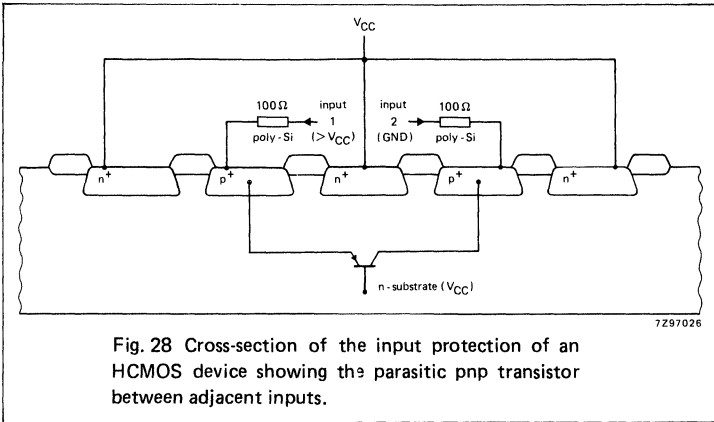
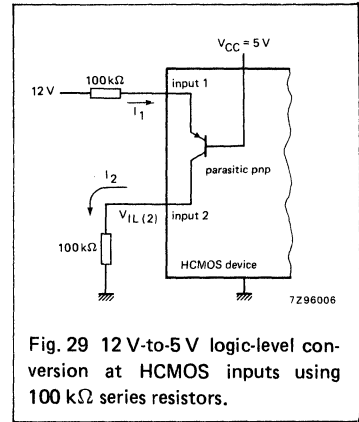

Fig. 28 Cross-section of the input protection of an HCMOS device showing the parasitic pnp transistor between adjacent inputs.
Fig. 29 12 V-to-5 V logic-level conversion at HCMOS inputs using 100 kΩ series resistors.
Parasitic bipolar pnp transistors can be present between adjacent inputs, e.g. between an input protection diode to V_{CC} and the same diode at the adjacent input, as shown in Fig.28. If the recommended operating input voltage is exceeded, perhaps by ringing of more than 0.7 V, current into the terminal (I₁) can cause a current I₂ in the parasitic transistor and in the adjacent input (Fig.29). Because I₂ in the adjacent input has to be drained by the source driving that input, the source resistance (R) must be low. If R is not low enough, the parasitic current can lift the source voltage and cause unwanted switching.
A low α permits proper logic operation in the presence of transients and also allows HIGH-to-LOW voltage translation simply by adding series input resistors. For example, in Fig.29, 12 V system logic is converted to 5 V system logic by adding a 100 kΩ resistor in each input. Since the logic signals are delayed by 1-2 μs, this arrangement is suitable for rather slow 12 V control logic such as that in automotive applications. When the input diodes are used as clamps for logic level translation, the total input current should be limited to 20 mA.